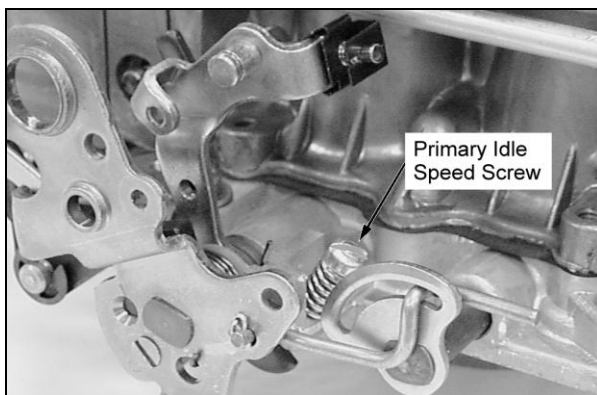

Figure 9
5. If the idle speed is slower than recommended, turn the screw clockwise to speed up the rpm. If the idle speed is too fast, turn the idle screw counter-clockwise to slow down. This adjustment should be made to both the primary and secondary screws in equal amounts, so that the throttle plates are opened the same amount. See Figures 9 and 10.